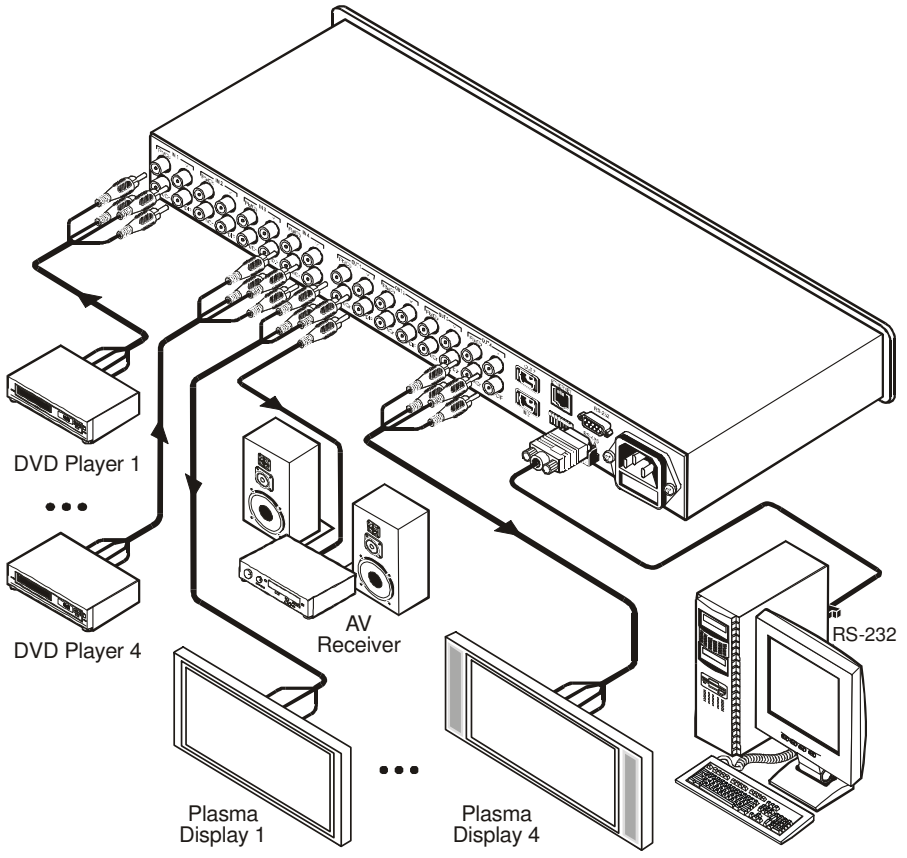

Figure 3: Connecting the VS-44HC 4x4 Home Entertainment Matrix Switcher
To connect the **VS-44HC**, as the example in Figure 3 illustrates, do the following¹:
5. Connect the power cord⁷ (not shown in Figure 3).